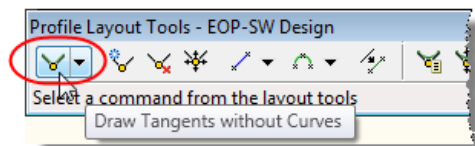

Figure 19
19. From the Profile Layout tools, Click **Draw Tangents** (see Figure 19).